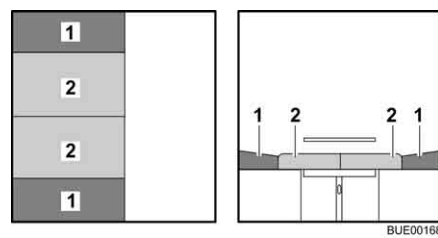

Fig. 71 After conversion
- Pull the seat cushions (Fig. 71,2) into the centre.
- Insert the back cushions (Fig. 71,1) between the seat cushions and the wall.